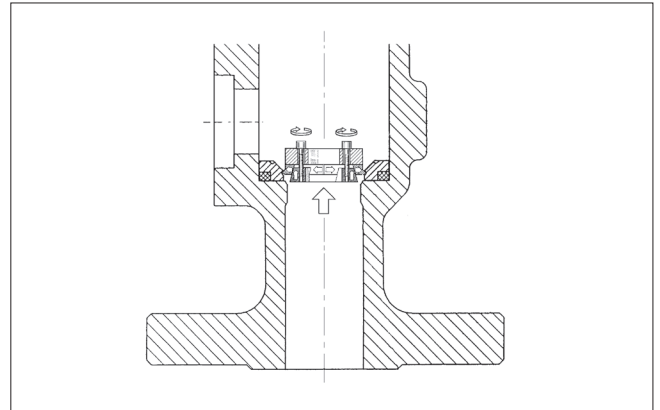

Fig. 13 Removing the locked seat
- Remove the locked seat (7) using a outpulling tool, see Fig. 13. See also Section 7 'Tools'.